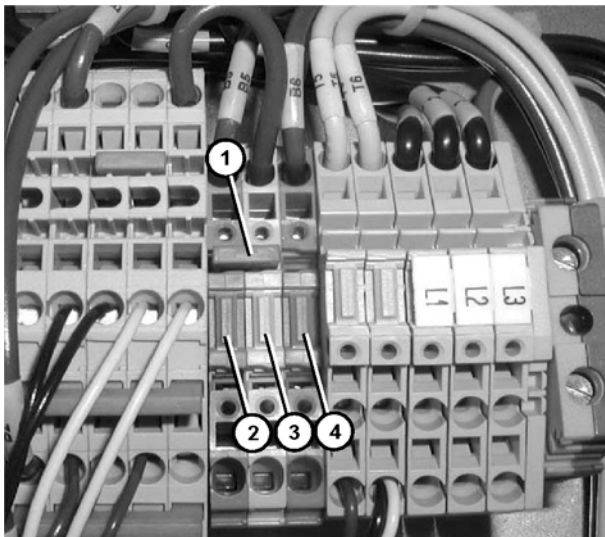

Figure 14
For forward belt movement, install the orange jumper (**Figure 14, item 1**) between the blue terminal (**Figure 14, item 2**) and white terminal (**Figure 14, item 3**), the left two terminals. For reverse belt movement, install the orange jumper between the orange terminal (**Figure 14, item 4**) and the white terminal (**Figure 14, item 3**), the right two terminals. (This jumper is removed when direction is controlled from the remote machine interface terminals.)